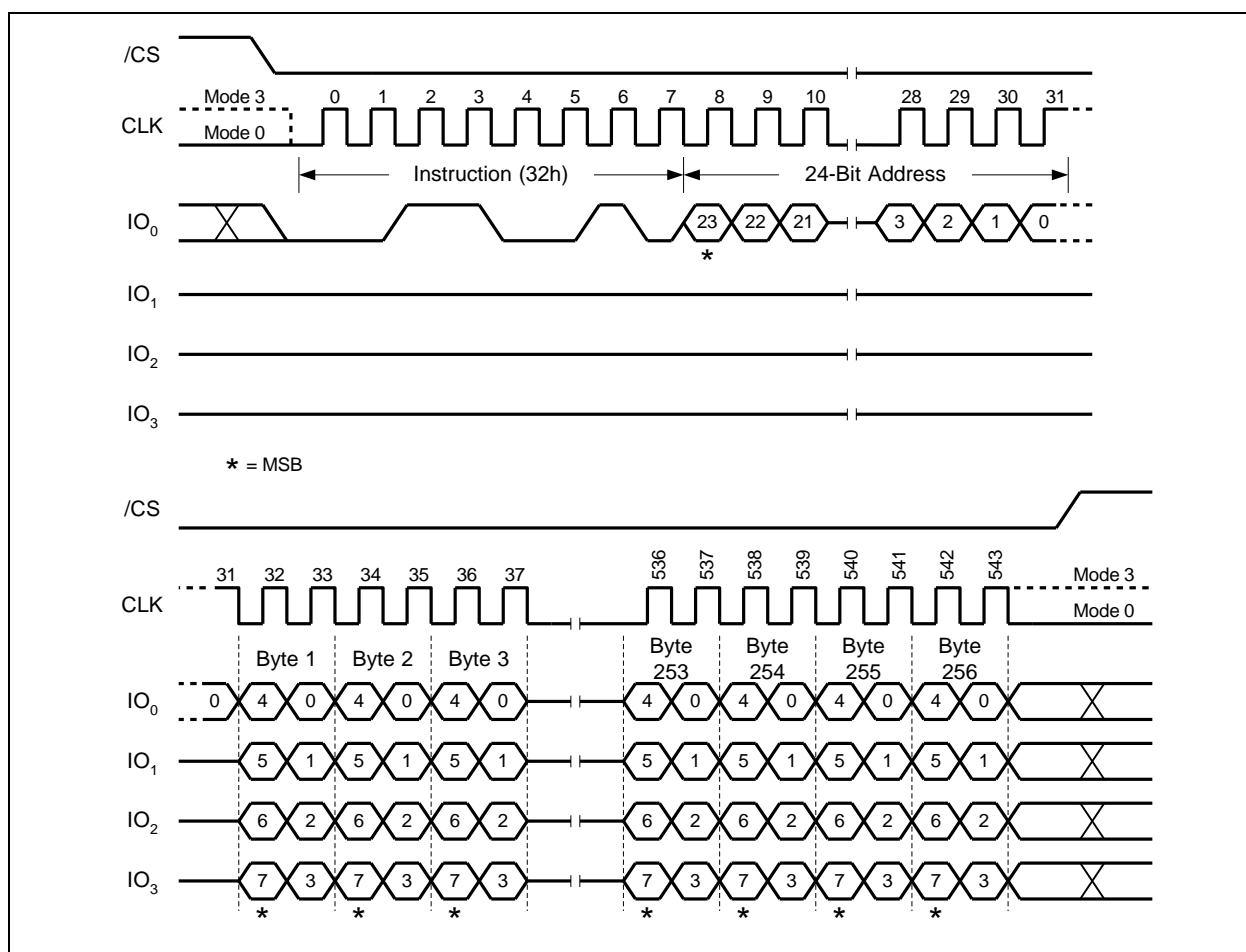

Figure 30. Quad Input Page Program Instruction
- B.2.14 To use Quad Page Program the Quad Enable (QE) bit in Status Register-2 must be set to 1. A Write Enable instruction must be executed before the device will accept the Quad Page Program instruction (Status Register-1, WEL=1). The instruction is initiated by driving the /CS pin low then shifting the instruction code "32h" followed by a 24-bit address (A23-A0) and at least one data byte, into the IO pins. The /CS pin must be held low for the entire length of the instruction while data is being sent to the device. All other functions of Quad Page Program are identical to standard Page Program. The Quad Page Program instruction sequence is shown in Figure 30.